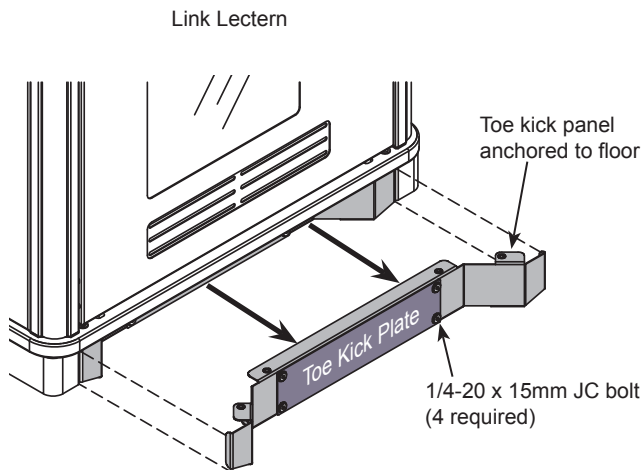

Figure 9B
5. Move lectern into position over the anchored toe kick. **Figure 9B.**
6. Align the (4) base panel mounting holes (instructor-side) with the toe kick panel mounting holes.
7. Attach toe kick plate with (4) 1/4-20 x 15mm JC bolts.